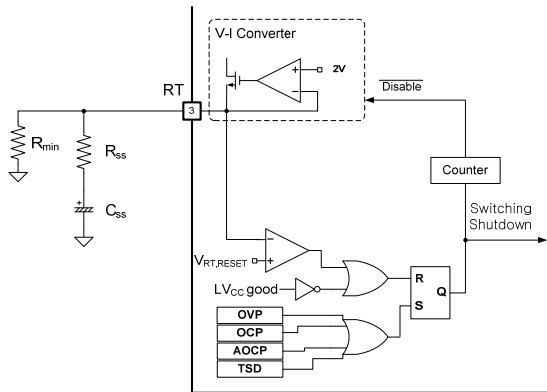
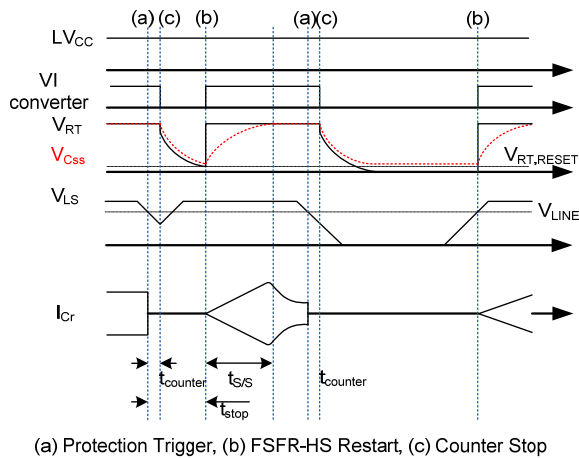

Figure 22. Internal Block for Auto-Restart
Figure 23. Self Auto-Restart Operation
**4. Self Auto-Restart:** The FSFR-HS series can restart automatically even though any built-in protections are triggered in case external supply voltage is applied. As shown in Figure 22 and Figure 23; once a protection is triggered, the power MOSFET immediately stops. The counter starts to operate and 1008-clocks are counted, then the V-I converter is disabled.  $C_{SS}$  starts to be naturally discharged with the series impedance of  $R_{SS}$  and  $R_{min}$  until  $V_{RT}$  drops to  $V_{RT,RESET}$ , typically 0.1 V. Then, all protections are reset and the V-I converter resumes. The FSFR-HS starts switching again with soft-start.